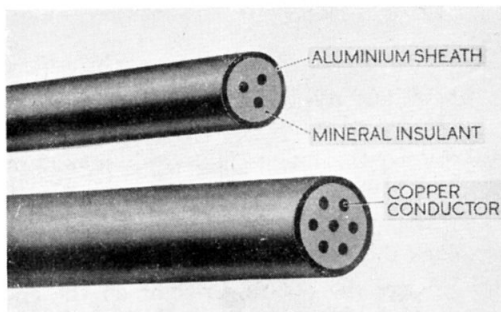

Fig. 1. 3-core and 7-core cables
3. The construction of the cable can be seen in fig. 1, the insulation being of compressed magnesium oxide. The two sizes used in aircraft are as follows:—